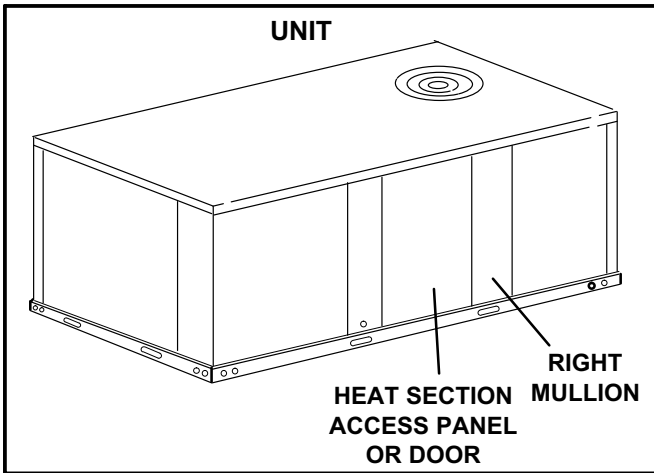

FIGURE 1
- 2- Open or remove the unit heat access panel. See figure 1. If the panel is hinged, remove the right mullion.